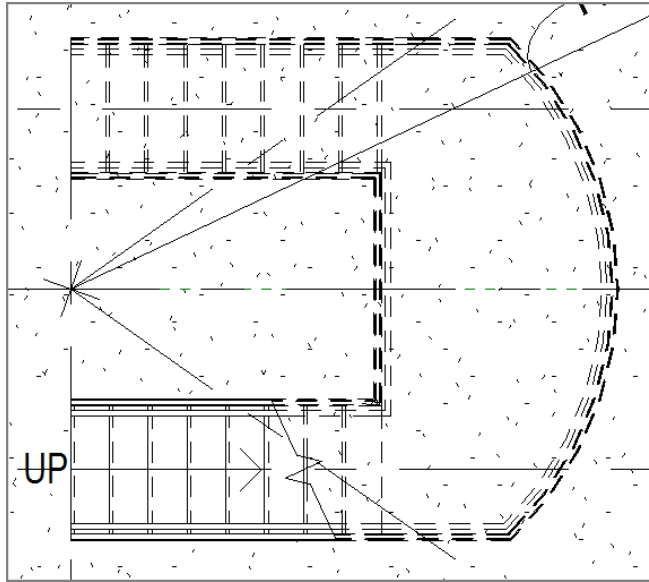

FIGURE 10.12: The stairs as displayed in the plan
7. Go to Level 1. Your stairs should look like Figure 10.12.